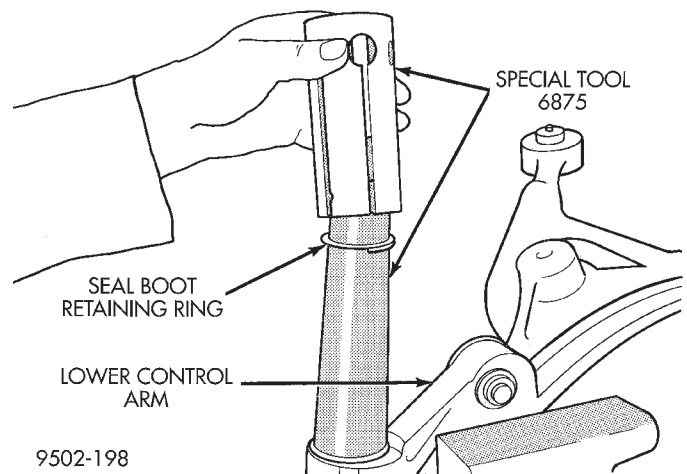

Fig. 109 Retaining Ring And Expandable Collar Installed On Tool
(5) Place seal boot retaining ring on Installer, Special Tool, 6875- 1 (Fig. 109). Then place expandable collar from Installer, Special Tool, 6875 over tapered cone of the special tool (Fig. 109).